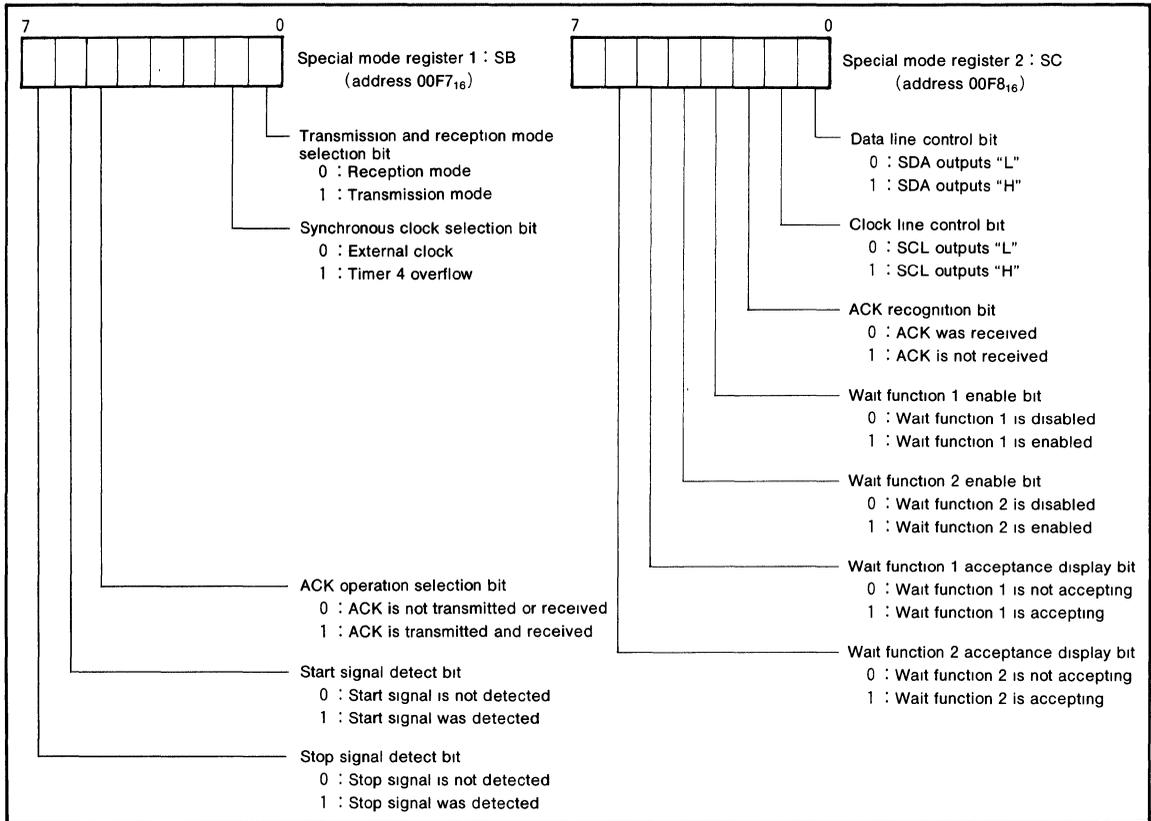

Fig. 18 Structure of special mode registers 1 and 2
(1) Master transmission
- ① To generate an interrupt at the end of transmission, set bit 3 of serial I/O mode register 2 (address 00CE₁₆) to "1" so as to special serial I/O interrupt is selected.
- ② Then set bit 1 of interrupt control register 2 (address 00FF₁₆) to "1" so as to special serial I/O interrupt is enabled. Clear the interrupt disable flag I to "0" by using the CLI instruction.
- ③ The output signals of master transmission SDA and SCL are output from ports P3₄ and P3₅. Set all bits (bits 4 and 5) corresponding to P3₄ and P3₅ of the port P3 register (address 00C6₁₆) and the port P3 direction register (address 00C7₁₆) to "1".
- ④ Set the transmission clock. The transmission clock uses the overflow signal of timer 4. Set appropriate value in timer 4 and timer 34 mode register. (For instance, if f(X_{IN})/2 is selected as the clock source of timer 4 and 9 is set in timer 4 when f(X_{IN}) is 4MHz, the master transmission clock frequency is 100kHz.)
- ⑤ Set contents of the special mode register 2 (address 00F8₁₆). (Usually, the value is "03₁₆".)
- ⑥ Set the bits 3 and 4 of serial I/O mode register 1 (address 00CD₁₆) so as the port P3₄ and P3₅ is specified to SDA and SCL. After that set the special mode register 1 (address 00F7₁₆). Figure 18 shows the structure of special mode registers 1 and 2. Initial setting is completed by the above procedure.
- ⑦ Clear bits 0 and 1 of special mode register 2 (to "0") to make both SDA and SCL output to "L". This is for arbitration. Immediately after this, write data to be